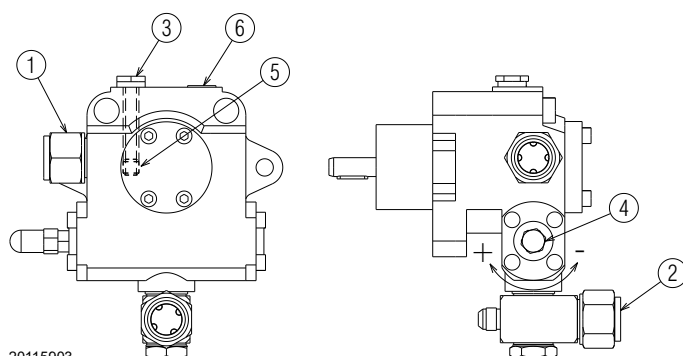

Fig. 20
The pumps are installed on the burner with the by-pass closed by screw 6 (Fig. 20). It is therefore necessary to connect both hoses to the pump.
Key (Fig. 20)
- In order for the pump (Fig. 20) to self-prime, it is vital that the screw 4) of the pump be loosened to vent the air contained in the suction line.